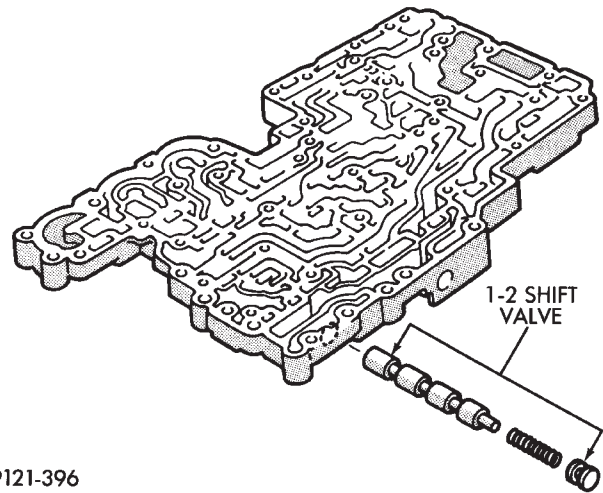

Fig. 4 Removing/Installing 1-2 Shift Valve
- (6) Remove 1-2 shift valve plug, valve spring and valve (Fig. 4).
- (7) Remove primary regulator valve as follows: